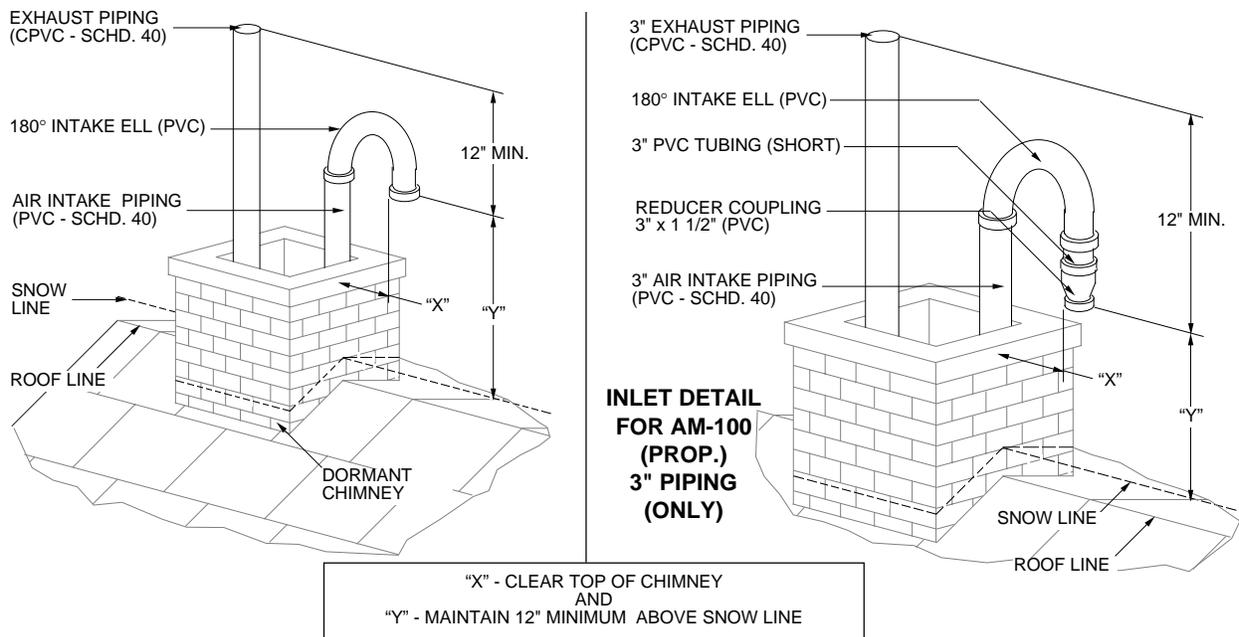

FIGURE 4.2
2. Air intake pipe termination must be as shown in Figure 4.2, with a 180° ell (return bend) installed on air intake pipe.
For 3" piping on propane AM-100, cement a reducer coupling and short tubing transition to the inlet termination only, see Figure 4.2.